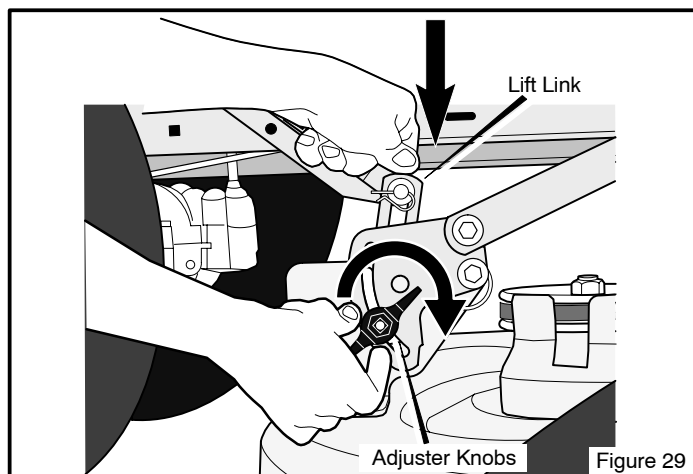

Figure 29
6. Loosen the left and right **adjuster knobs** (Figure 29). Push down on each side of the mower housing. Make sure both sides of the mower housing are setting on a flat surface. Also, make sure the lift links are loose and can easily move up or down.
7. Push down on the **lift links** and tighten the left and right **adjuster knobs** (Figure 29). Make sure the **adjuster knobs** are tight. If necessary, use a wrench to tighten the **adjuster knobs**. Tighten to a torque of 10 foot pounds (13,5 N-m).